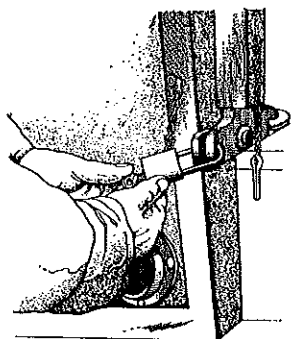

Fig. 9—Removing Locks from Hasps
1. Unlock the four padlocks located at each corner of the shop. One key fits all of them. Remove from hasps. See Fig. 9.